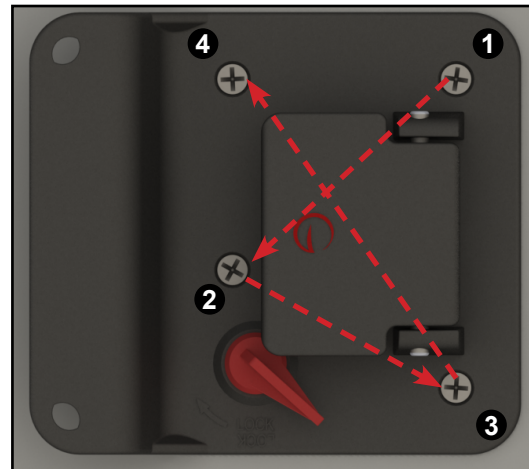

Fig.15
8. Tighten hardware on the back side of the Locking Mechanism in an 'X' pattern (Fig. 15).